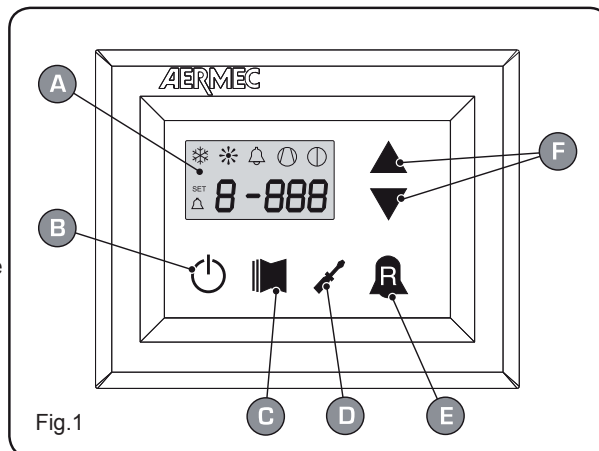

Fig.1
- **AVLÄSNINGS meny (tangente (C) Fig.1)**
- **INSTÄLLNINGS meny tangente (D) Fig.1)**
- **ALARM log (tangente (E) Fig.1)**
Brukarens gränssnitt (Fig.1)